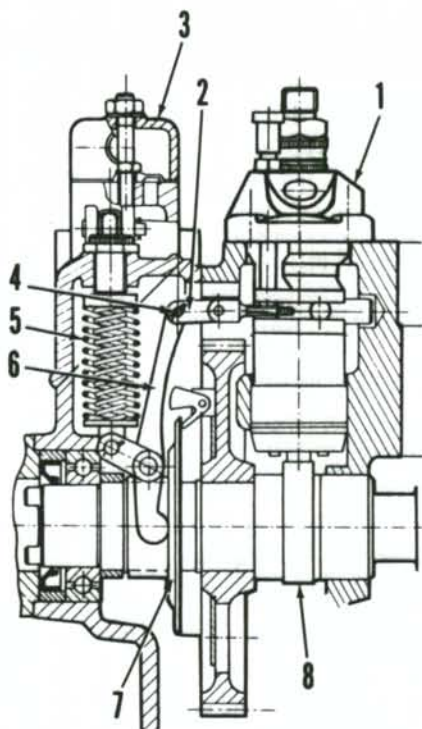

Fig. D1-8—Cross-sectional view of injection pump and governor assembly.
To remove injection pump, remove fuel lines from pump and immediately plug all openings. Remove governor housing cover and lift out governor inner and outer springs (5—Fig. D1-8). Disconnect governor arm (6) from fork (2), then screw fork out and move pump control rack to center position. Remove
To remove engine front cover, remove governor cover (3—Fig. D1-8) and lift out governor springs (5). Disconnect governor lever (6) from fork (2). Remove governor pivot shaft and lift out governor lever. Remove front pulley. Remove camshaft cover and balance weight cover with shims. Remove front cover mounting screws, then use a suitable puller to withdraw cover with bearings. Heat cover before tapping out bearings.